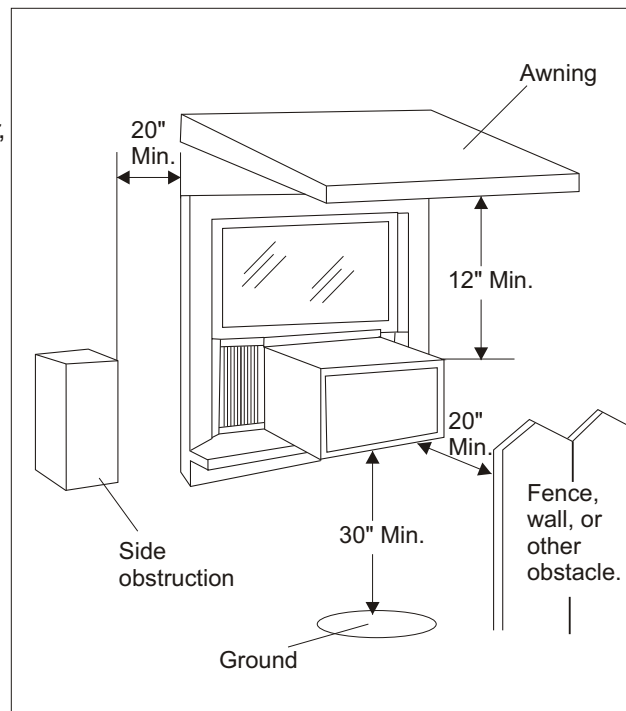

Fig.2
D. Provide sufficient clearance around the cabinet to allow for ample air circulation through the unit. See (Fig.2). The rear of the unit should be outdoors and not in a garage nor inside of a building. Keep unit as far away as possible from obstacles and obstructions and at least 30" above the floor or ground. Curtains and other objects within a room should be prevented from blocking the air flow.